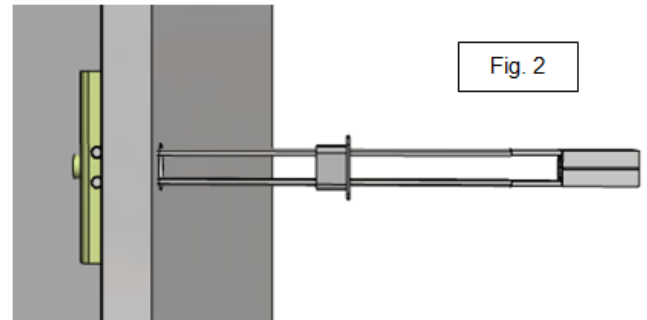

Fig. 2
2. Hold ends of straps between thumb and forefinger and pull toward you until channel rests flush behind wall. Slide plastic cap along straps with other hand until flange of cap is flush with wall, Fig. 2